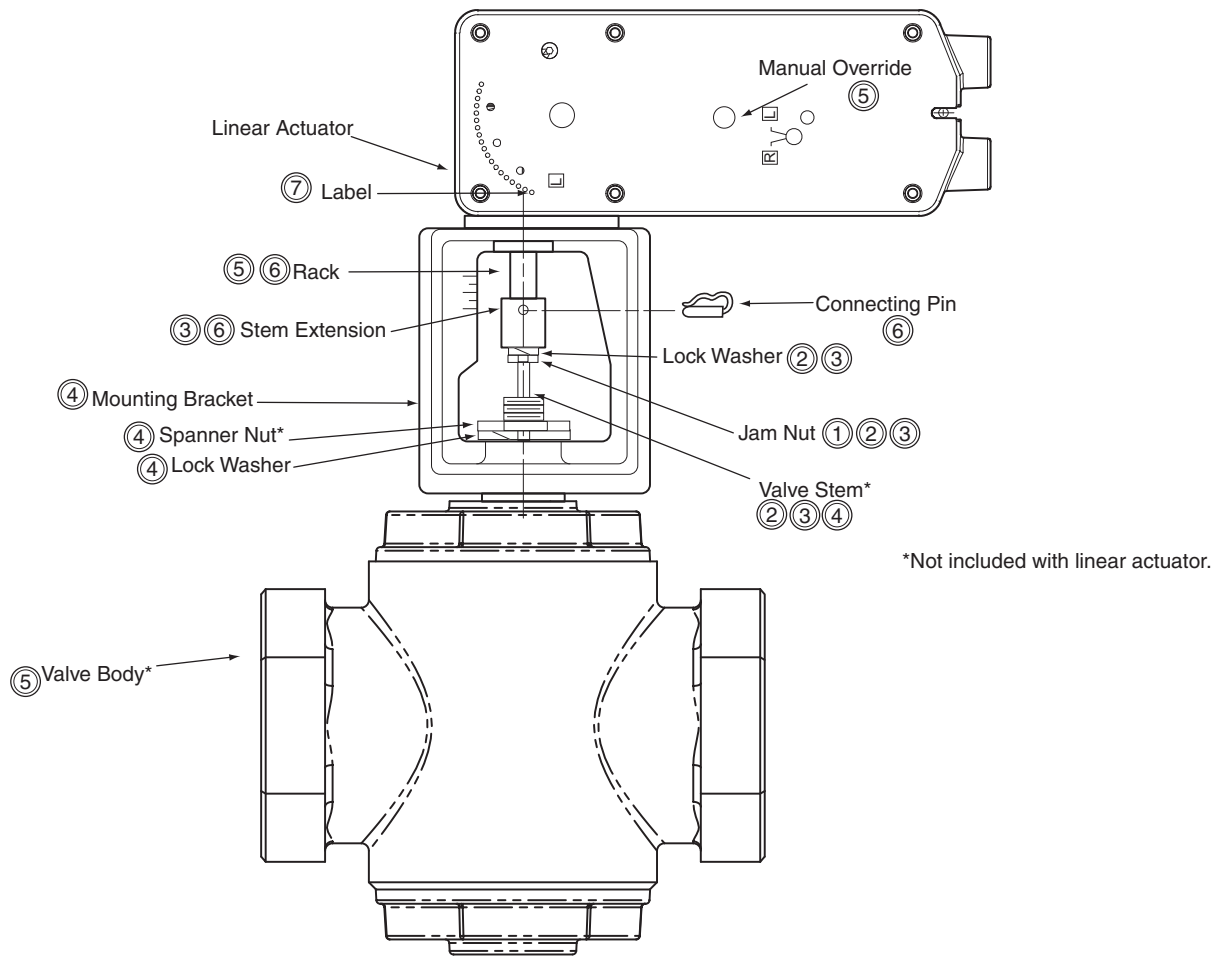

Figure-5 Typical Assembly and Installation of AM-732 Linkage Kit with MX61 Series Actuator to 2-1/2" to 4" VB-9XXX Series Valve Bodies, Stem-Up Open, 2-Way.
- A. Install the actuator onto the valve. Set up the assembly according to the numbered steps in Figure-5.